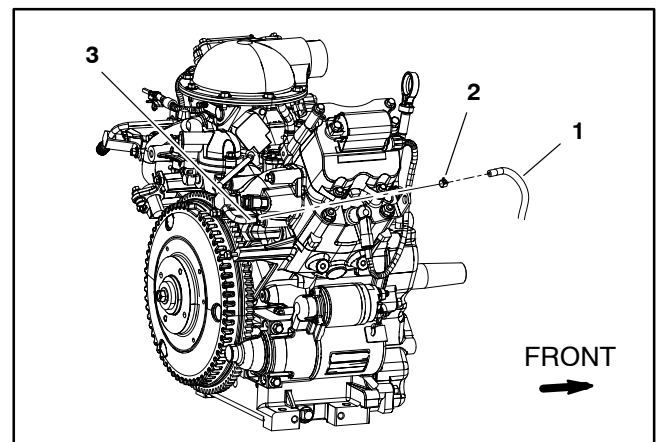

Figure 34
3. Disconnect fuel supply hose from fuel rail inlet on engine (Fig. 34).